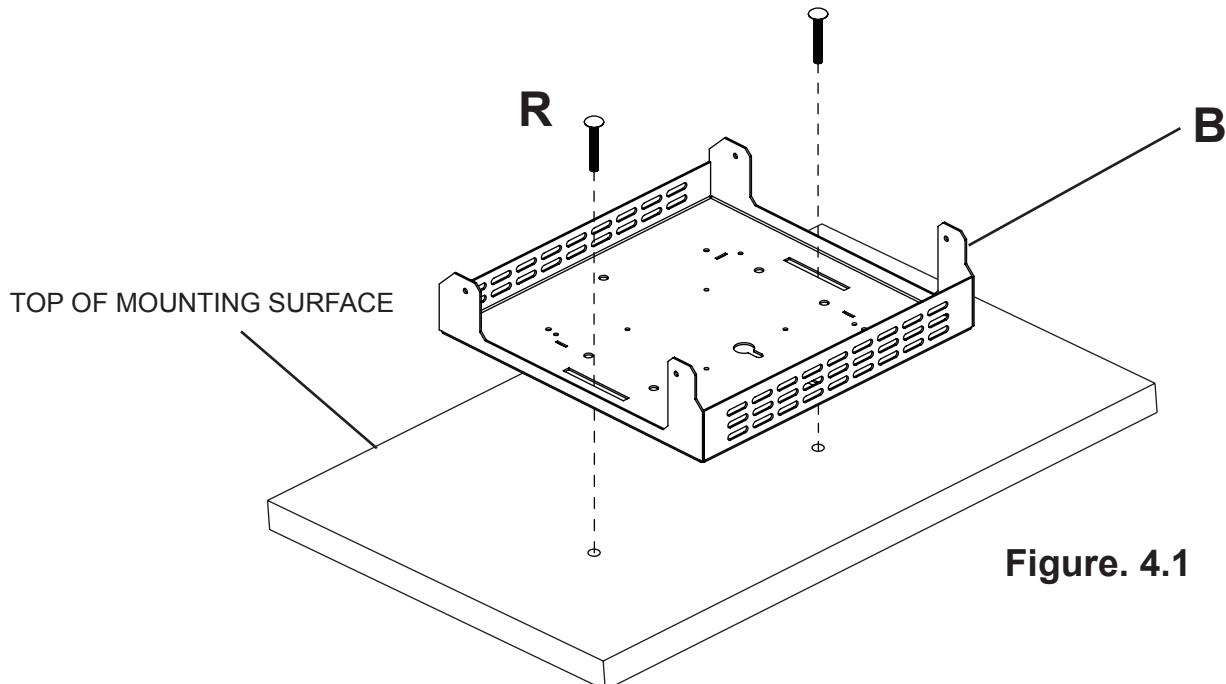

Figure. 4.1
**4** Place wall plate (B) onto mounting surface as a template. Level, and mark the center of two rectangular mounting holes. Drill two 5/16" (8 mm) dia. holes through mounting surface. Secure using two carriage bolts (R) through wall plate (B) and mounting surface as shown in figure 4.1.